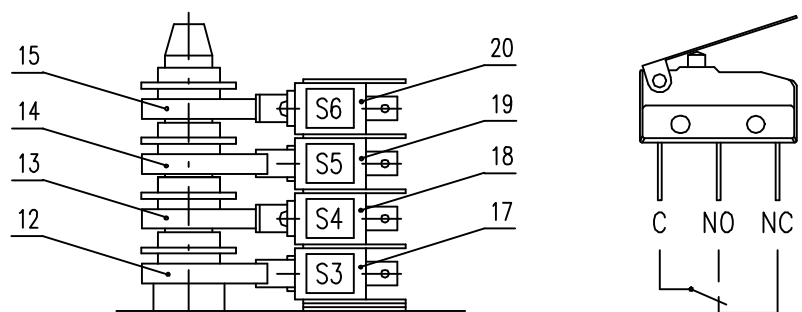

Fig.3
3.1 Adjustment of position switches (Fig.3)